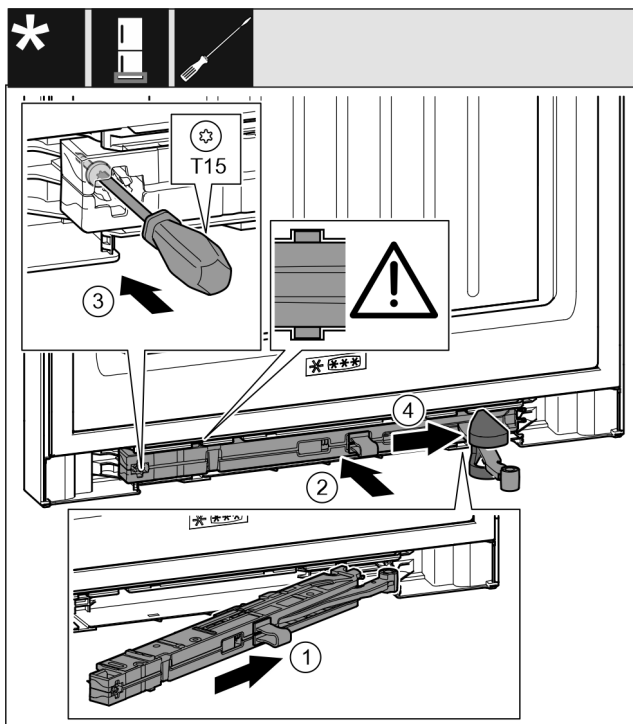

Fig. 48
- ▶ On the swap bearing block side, slide the closing damper unit *Fig. 48 (1)* into the recess at an angle up to the stop.
- ▶ Push the closing damper unit *Fig. 48 (2)* into the recess completely.
- ▶ Use a screwdriver to tighten the screw *Fig. 48 (3)*.
- ▶ Push the cover *Fig. 48 (4)* over the joint.